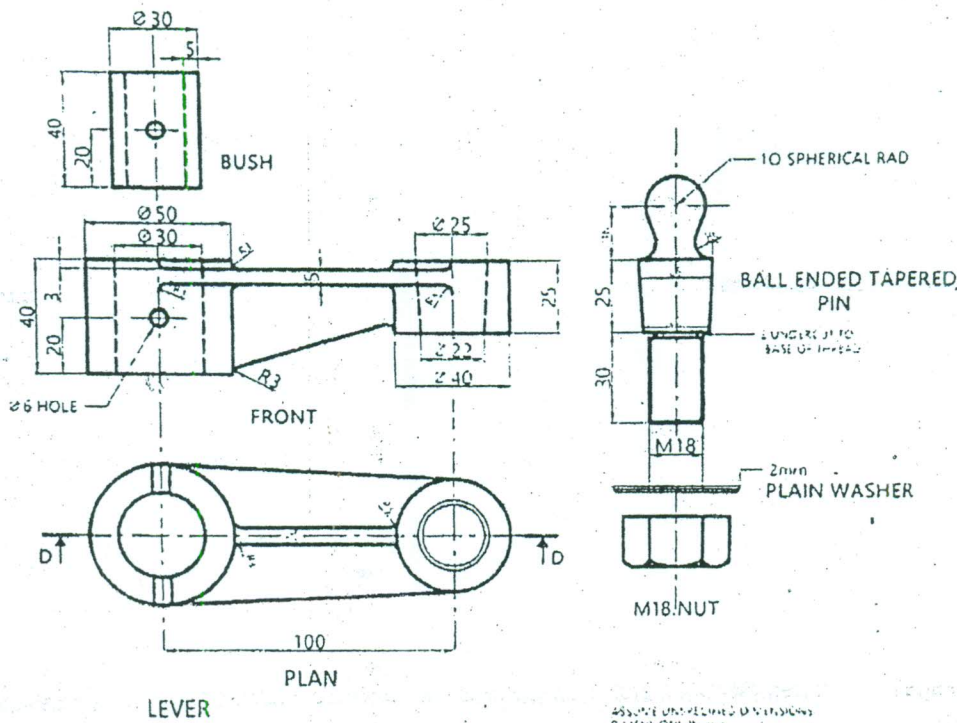

Figure 1
1. The drawing in figure 1 shows a lever drawn in first angle projection with the parts fully assembled. Draw: